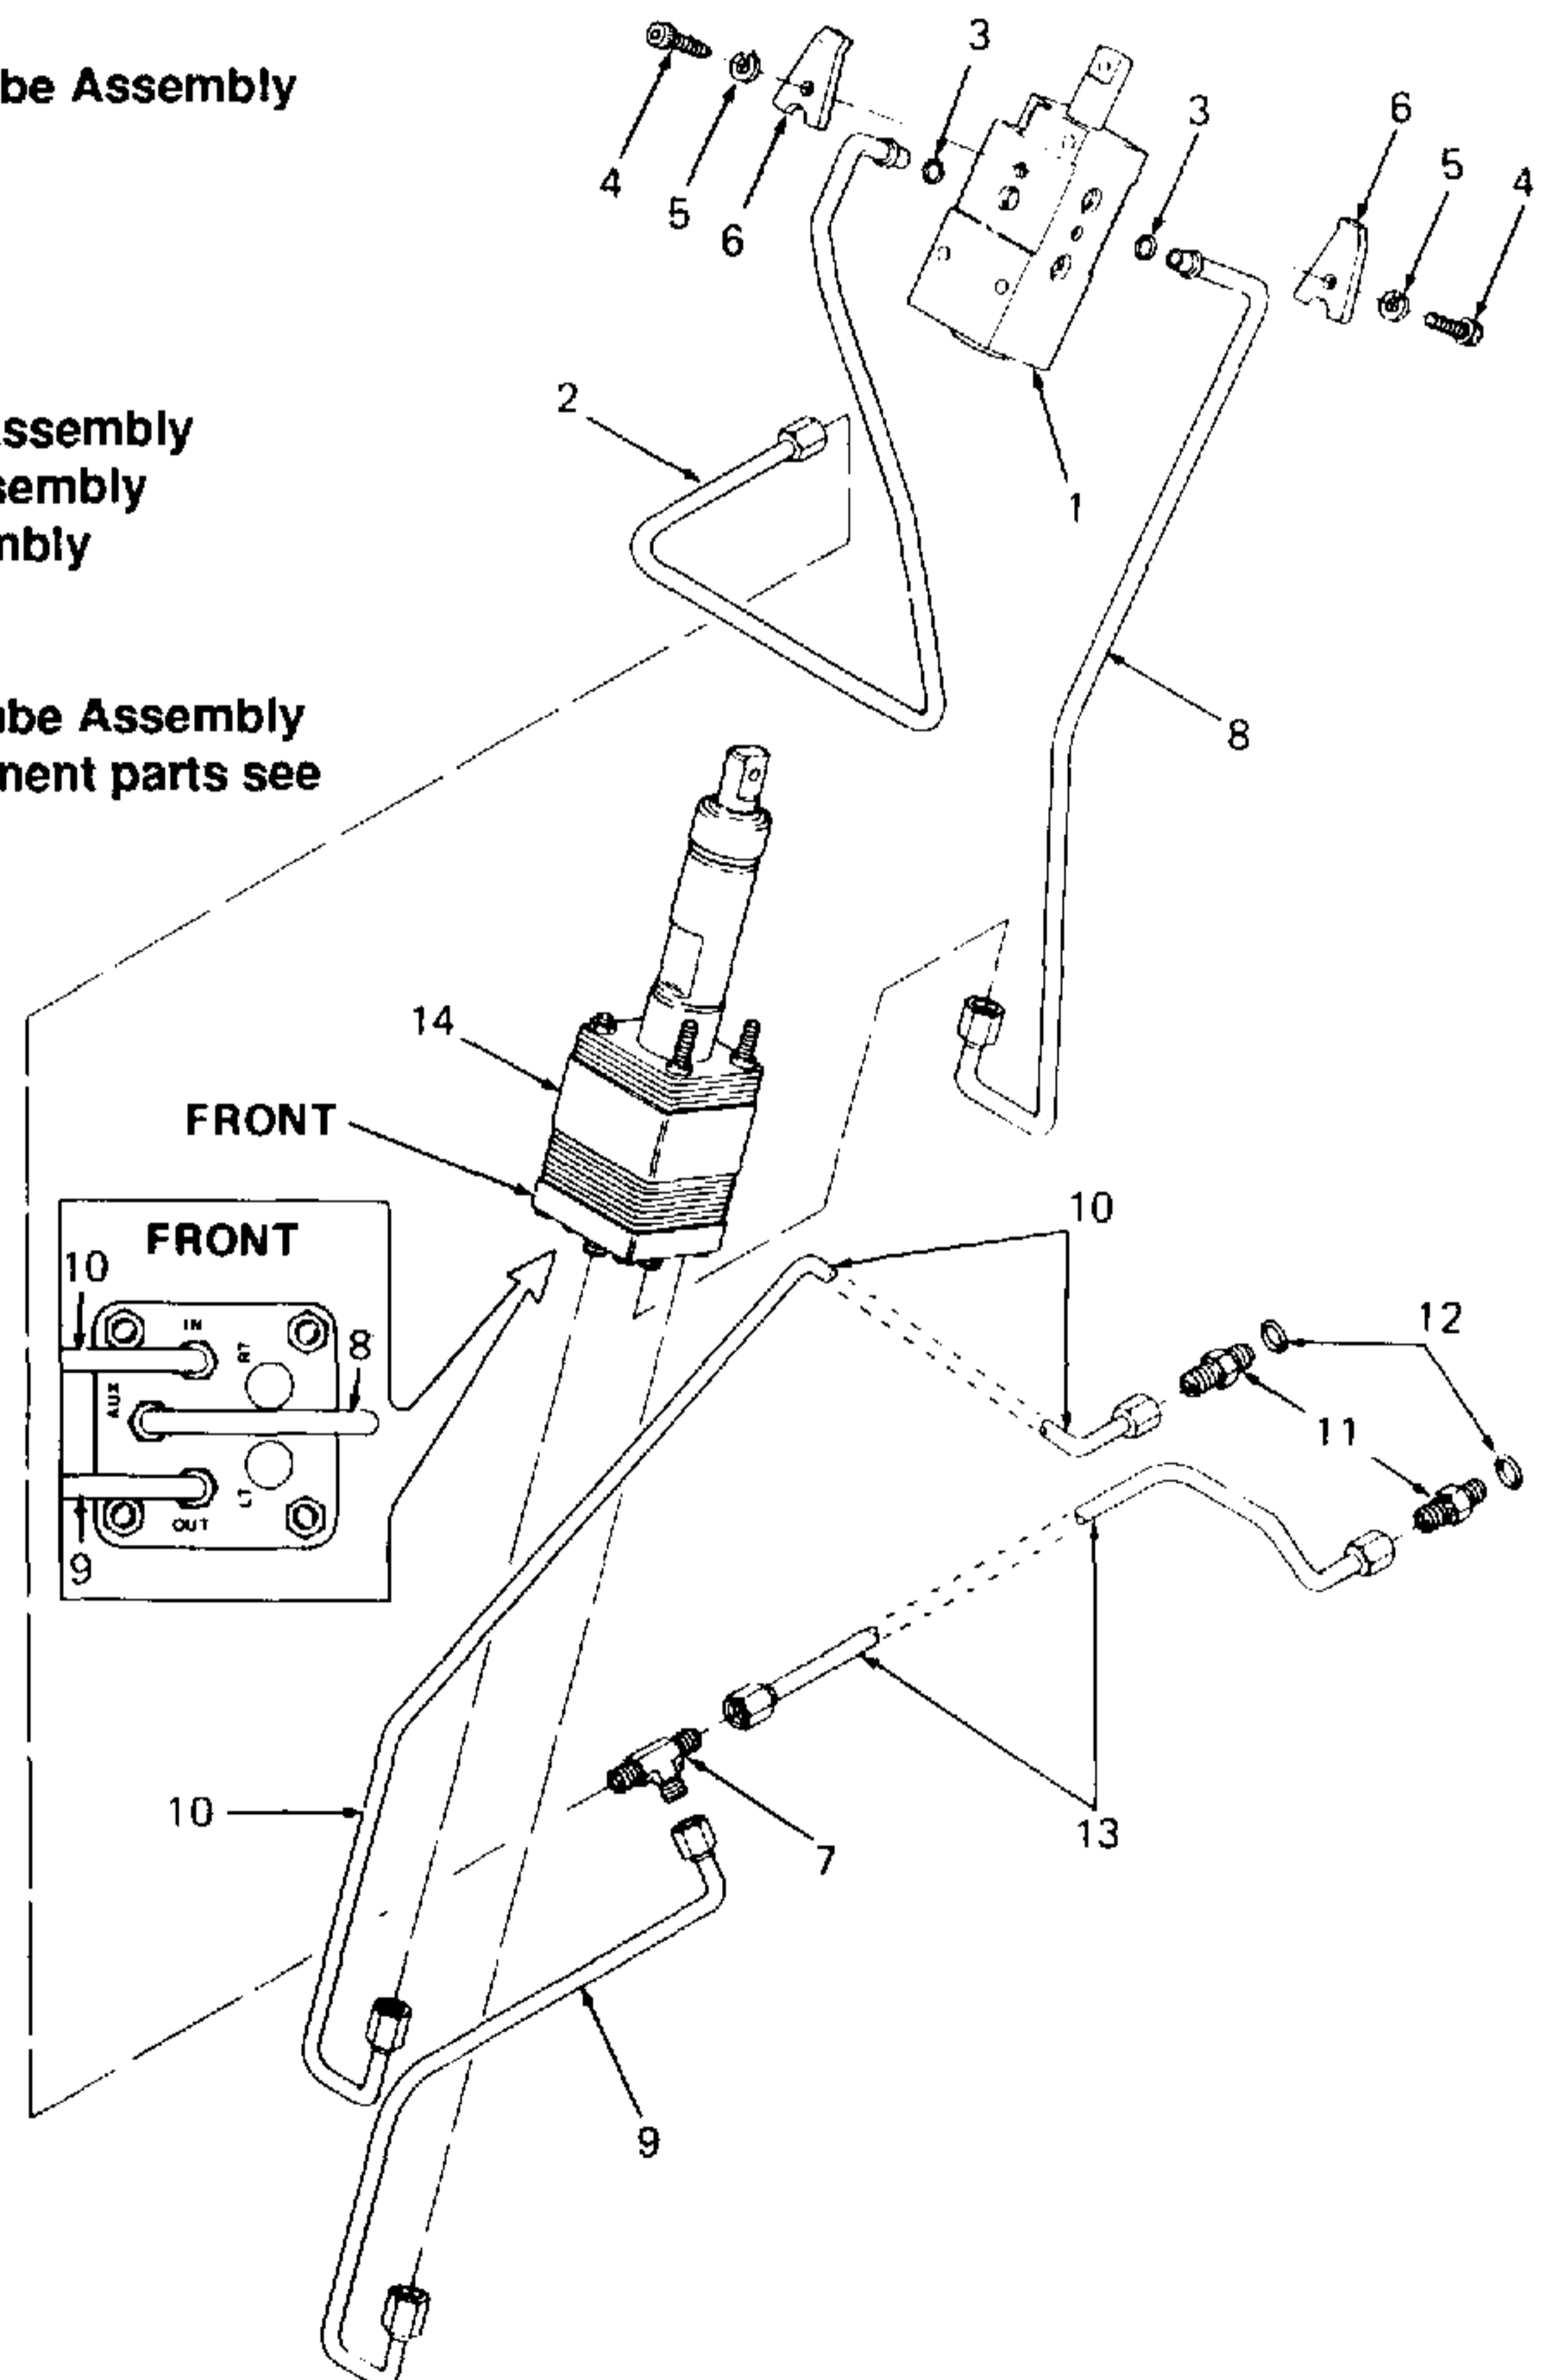

Figure 5-50. Power Steering Hydraulics (Models 1782, 1862, 1882, 2082 and 2182).
- a. Remove power steering upper return tube assembly (2, Figure 5-50) as follows:
- (1) Remove tube (2) and O-ring (3) from lift valve (1) by removing socket head cap screws (4), lock washer (5) and single clamp (6). Discard O-ring (3).
- (2) Remove tube (2) from T-fitting (7) by loosening nut.
- b. Remove power steering auxiliary tube assembly (8) as follows:
- a. Install power steering lower return tube assembly (13) onto hydrostatic transmission after installing O-ring (12) and 37 degree tube connector (11) on transmission.
b. Install power steering inlet tube assembly (10) as follows:
- (1) Secure tube (10) to hydrostatic transmission with nut at rear end of tube after installing O-ring (12) and 37 degree tube connector (11) on transmission.
- (2) Secure tube (10) to power steering box (14) by tightening nut on front end of tube. Refer to Figure 5-50 for proper placement of tube.
c. Install power steering return tube assembly (9) as follows:
- (1) Secure tube (9) to T-fitting (7) by tightening tube nut at rear end of tube.
- (2) Secure tube (9) to power steering box (14) by tightening nut at front end of tube. Refer to Figure 5-50 for proper placement of tube.
- d. Install power steering auxiliary tube assembly (8) as follows:
- (1) Secure tube (8) onto power steering box by tightening nut on end of tube. Refer to Figure 5-50 for proper placement of tube.
- (2) Secure tube (8) and O-ring (3) onto lift valve (1) and secure with single clamp (6), lock washer (5) and socket head cap screw (4).
- e. Install power steering return tube assembly (2) as follows: